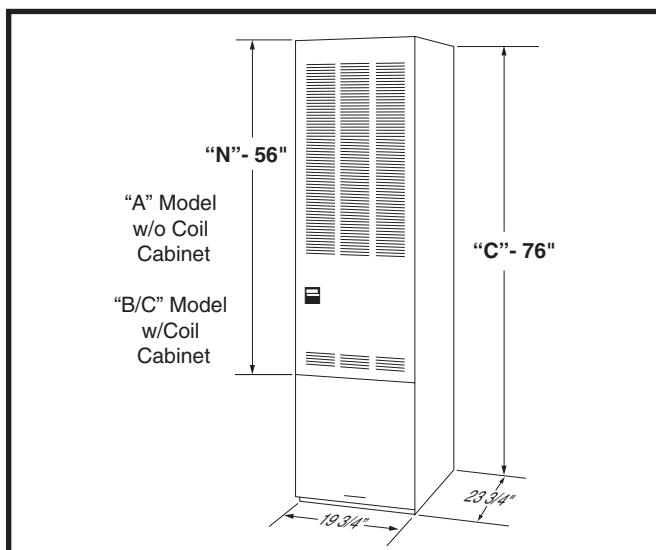

Figure 4. Overall Dimensions
- The dimensions of the room or alcove must be able to accommodate the overall size of the furnace and the installation clearances listed in Table 1 and in Figure 4.